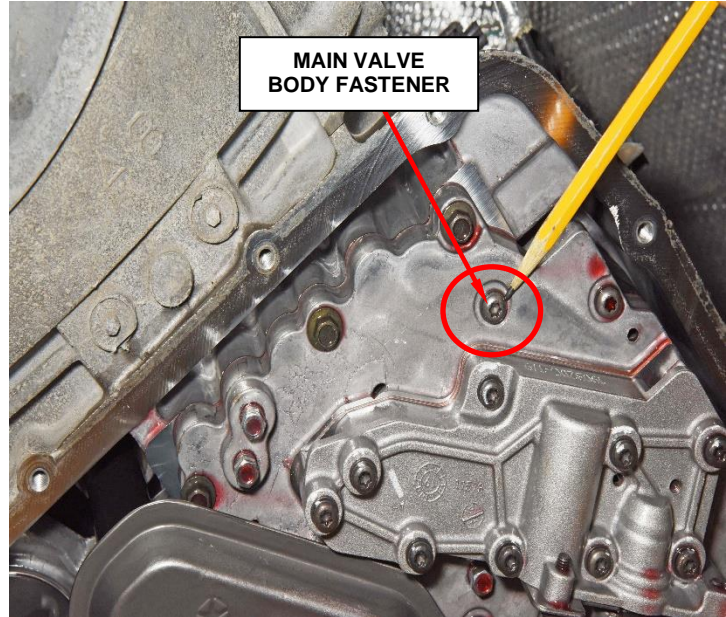

Figure 11 – Main Valve Body Fastener
20. Tighten the main valve body fastener to 7.3 N·m (64.6 in. lbs.) (Figure 11).